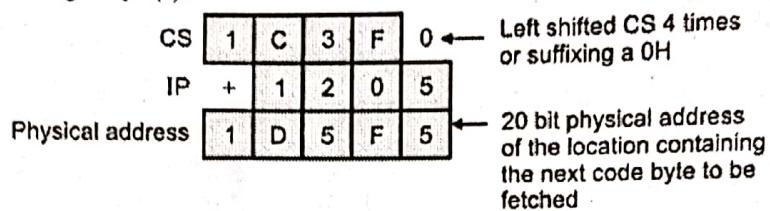

Fig. 1-Q.6(a) : Computation
1. The Code Segment (CS) register
2. The Stack Segment (SS) register
3. The Extra Segment (ES) register
4. The Data Segment (DS) register
- Code Segment (CS) points to the beginning of Code segment (that stores the programs or codes) Stack Segment (SS) points to the beginning of stack segment. Data Segment (DS) and Extra Segment (ES) are used to point to data segments, wherein ES is used only during the string instruction execution.
- The CS is used to point to the beginning of Code segment and the Instruction pointer (IP) along with CS points to the next instruction to be executed. This is done by shifting the 16-bit value of CS left by 4 bits and then adding the value of IP with the shifted value as shown Fig. 1-Q. 6(a).